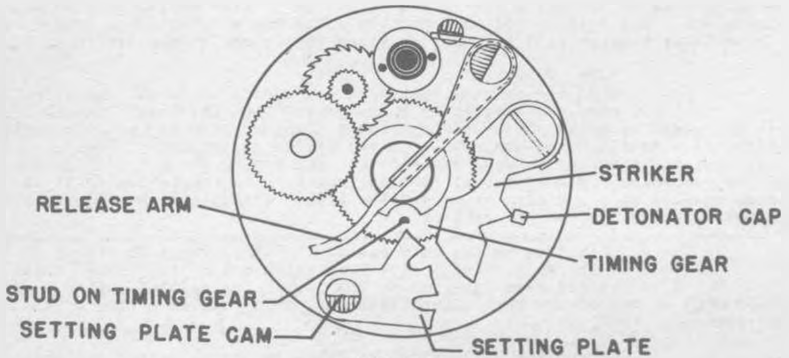

FIGURE 11
(1) The timing gear, under the influence of its clock spring, rotates in a counter-clockwise direction. Near the end of its first revolution, the stud on the timing gear engages the first slot of the setting plate and pulls the latter around with it a limited distance in a clockwise direction.
(2) Near the end of the timing gear's second revolution, the stud engages the second slot in the setting plate, once again moving it a limited distance.
(3) Near the end of the third revolution, the stud on the timing gear engages the heel of the setting plate to move the latter clear of the timing gear. With the setting plate in this position, the setting plate cam presents its cutaway section to the release arm, thereby freeing the release arm. The release arm is forced past the setting plate by the spring-loaded striker bearing against the release arm cam. As the pivoted striker clears the release arm cam it is free to strike in a counter-clockwise direction and fire the detonator, Fig. 11.